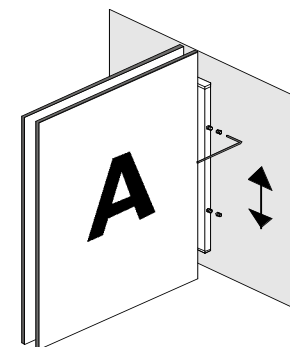

Fig. 4
4. Make any vertical adjustment by sliding sign up or down, before tightening the set screws. Tighten the set screws and final check the assembly. (see fig. 4)